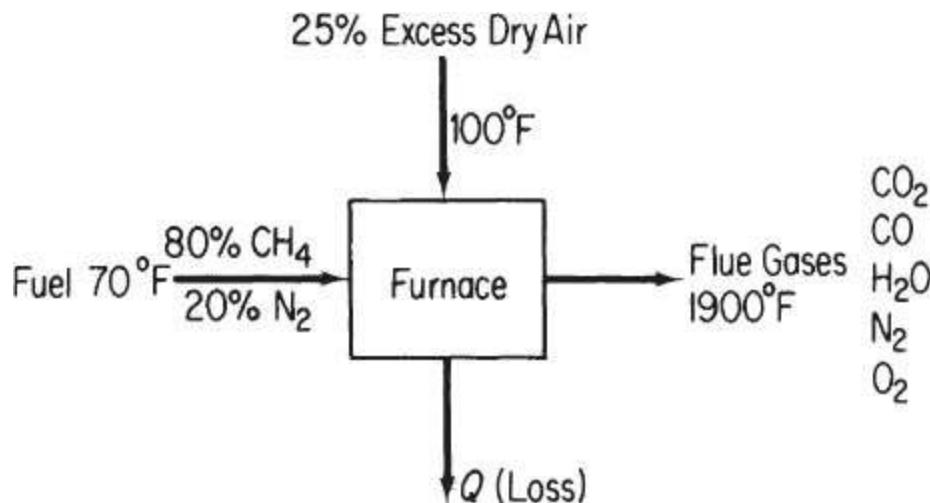

Figure P12.3
- 12.3. How many variables must be specified for the furnace shown in Figure P12.3 to absorb all the degrees of freedom?